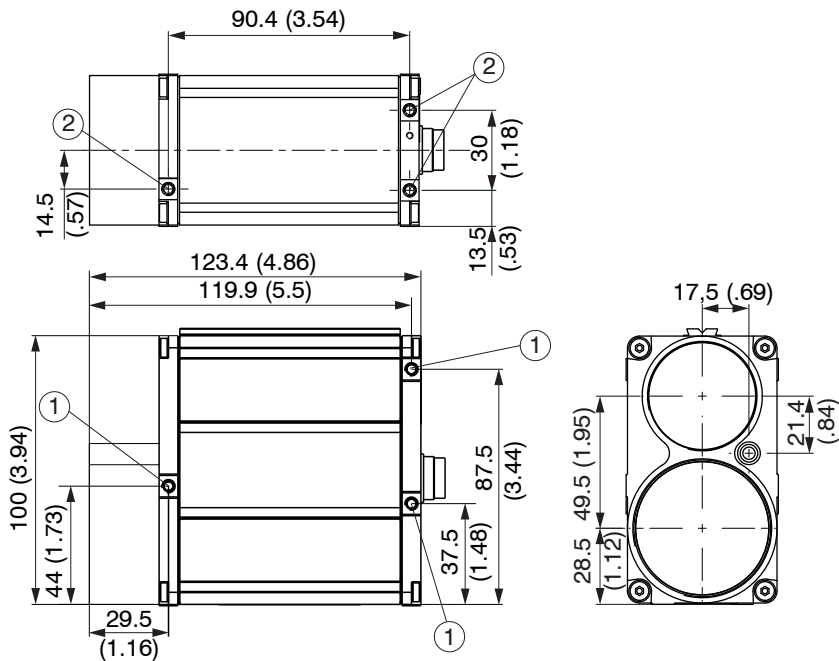
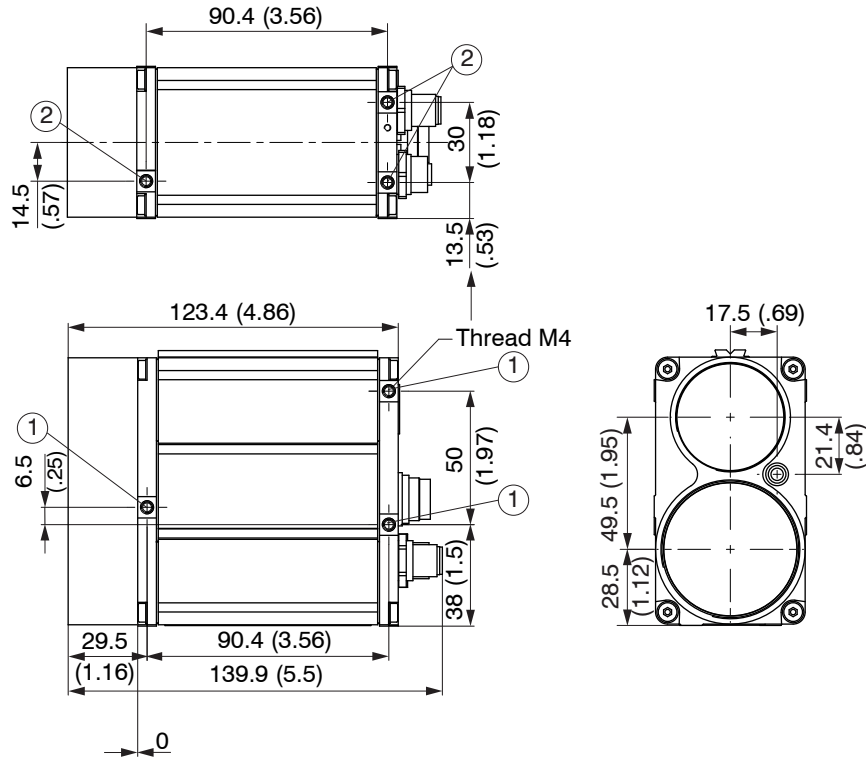

Fig. 5 Dimensional drawing sensor, model ILR 1191-300(01)/ ILR 1191-300(02) serial Interface, dimensions in mm (inches), not to scale
Fig. 6 Dimensional drawing sensor, model ILR 1191-300(03) SSI und ILR 1191-300(04) Profibus, dimensions in mm (inches), not to scale
- Attachment to a lateral surface. The sensor provides three support pads, see Fig. 5, see Fig. 6, reference 1, with mounting holes M4 x 6.
- Attachment to casing bottom. The sensor provides three support pads, see Fig. 5, see Fig. 6, reference 2, with mounting holes M4 x 6.